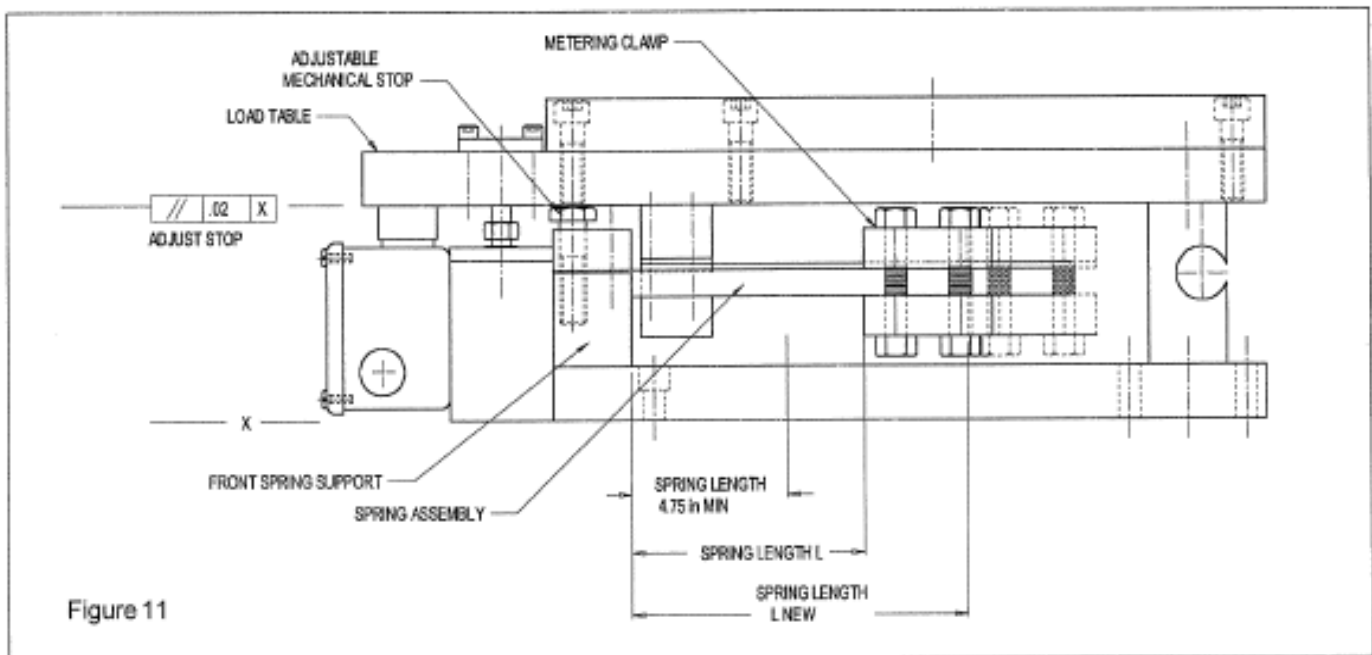

Figure 11
Loadcell recalibration involves changing the spring length which in effect changes the calibrated operating load capacity of the unit. This is accomplished by increasing or decreasing the spacing between the opposing faces of the front spring clamp and the metering blocks. (Refer to Figure 11)
4. Check that the load plate is parallel to the base plate ( $\pm .020"$ ). This in effect removes the tare weight acting on the load plate. Depending on the load capacity of the units and the applied tare weight, the load table may require the use of a prying or clamping device to force the load table parallel to the base plate, and blocking it to maintain the position. (Refer to Figure 11 before proceeding with Step 3a or 3b)